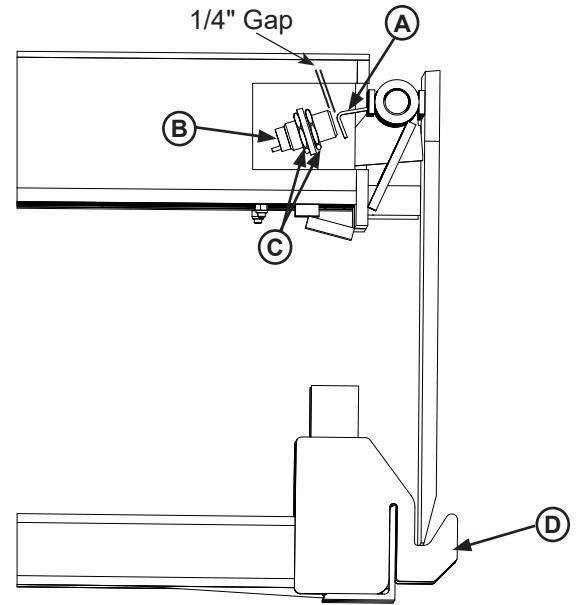

Figure 32
Stored - Lip plate is resting in the lip keepers (**D**). In the stored position, target (**A**) is directly in front of the sensor (**B**). See **Figure 32**.
2. When the sensor and target are positioned correctly, the target should be parallel to the face of the sensor with a gap of 1/4", when the lip is in the stored position. See **Figure 32**.